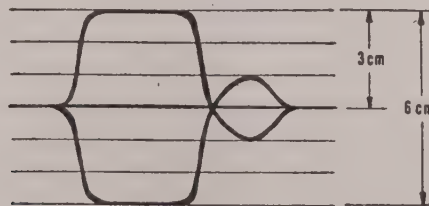

Figure 5: Transmitter Amplitude
- d. Set the Oscilloscope sweep for 0.1 μ sec/cm and vertical sensitivity for 0.05V/cm. Adjust potentiometer R6 (+5V Adjust), on the upper edge of the Power Supply board, for a pulse height of 1.5V (3 cm) peak or 3.0V (6 cm) peak-to-peak as shown in Figure 5.